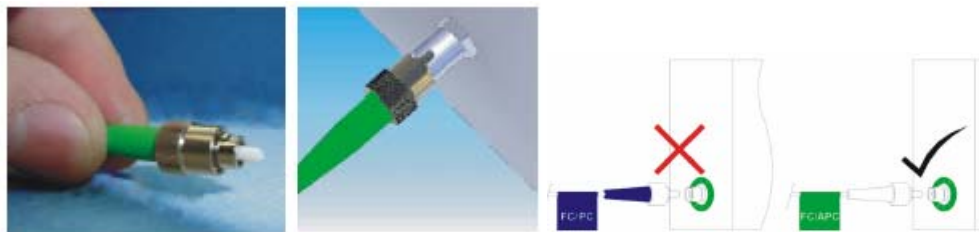

Figure 8
- On a cleaning pad, use a "Figure 8" motion, ensuring that the tip of the ferrule is always parallel to the cleaning pad.